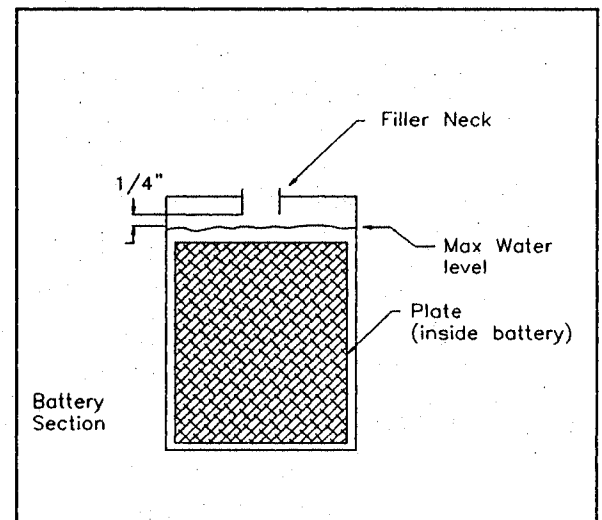

Figure 3-15
- Check the electrolyte in all of the batteries. If low, fill with distilled water to the correct level (see figure 3-15).